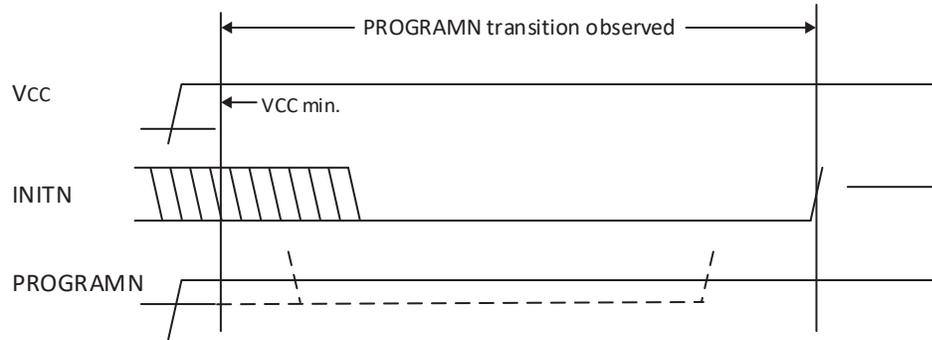

Figure 4.5. Period PROGRAMN is Always Observed
- PROGRAMN is active during power-up, even when PROGRAMN has been reserved as a general purpose I/O. Do not allow any input signal attached to PROGRAMN to transition from high to low at a frequency greater than the VCC (min) to INITN rising edge time period. High to low PROGRAMN assertions more frequently prevent the MachXO3L device from configuring, causing the FPGA to remain in a continuous RESET condition. See Figure 4.5.